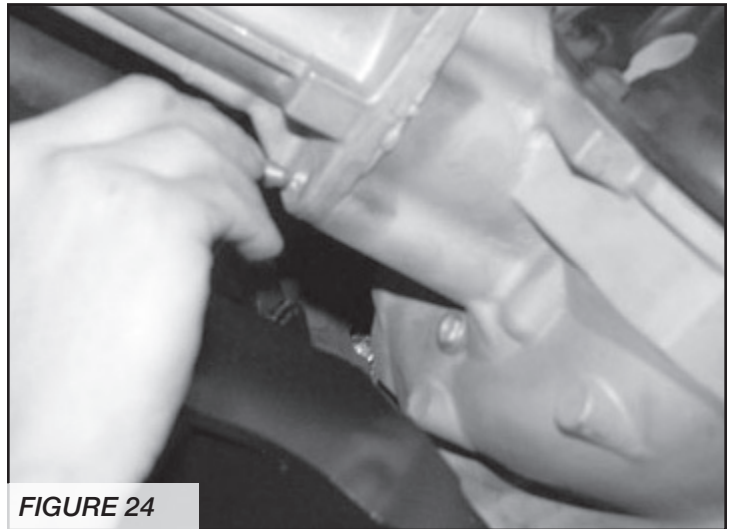

FIGURE 24
23. Remove the center differential housing bolts on the back side of the differential. **SEE FIGURE 24**